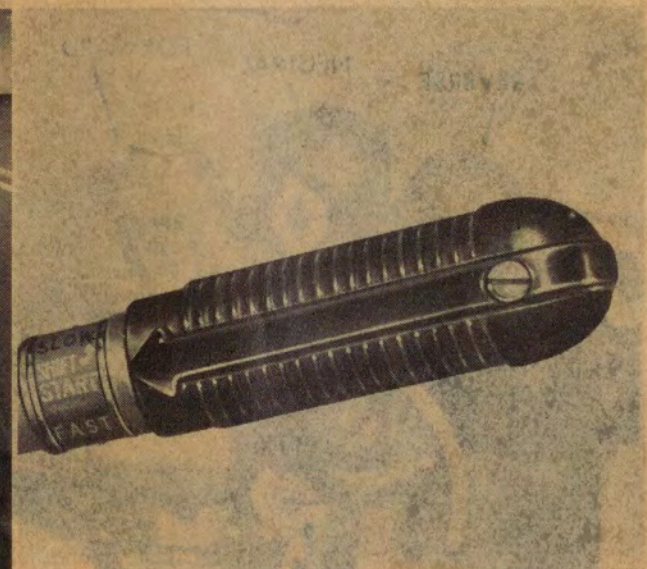

Figure 8
"Spark" and "throttle" are synchronized by a system of linkage to correctly proportion degree of spark advance with respect to volume of fuel charge admitted throughout entire speed range of the motor. Desired motor speeds (within capacity of the motor) are thus obtained by manipulation of the control grip (Fig. 8).
10 It is possible to shift ONLY when the arrow on the speed control grip is set within the “shifting” range as indicated by position marked SHIFT and arrow on the steering arm (Fig. 8). Take note of this fact.
3. Turn speed control grip to position marked "start" as indicated on the steering arm (Fig. 8); then advance control grip toward position "fast" until it "butts" against speed limit control for neutral operation.